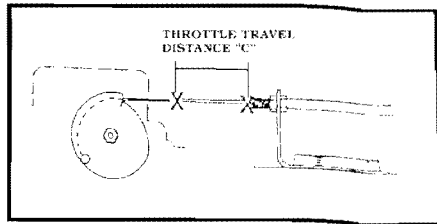

Figure 6
- Measure the Distance "C" between the two marks. **Figure 6** If the distance is greater than **41mm (1-5/8")**, go to **Page 11**; If it is less, go to **Step D**.